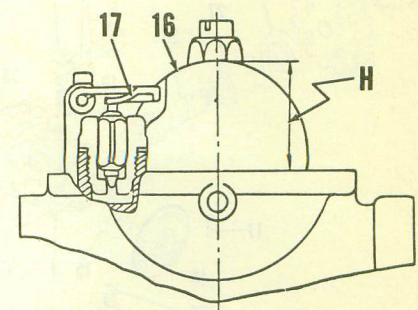
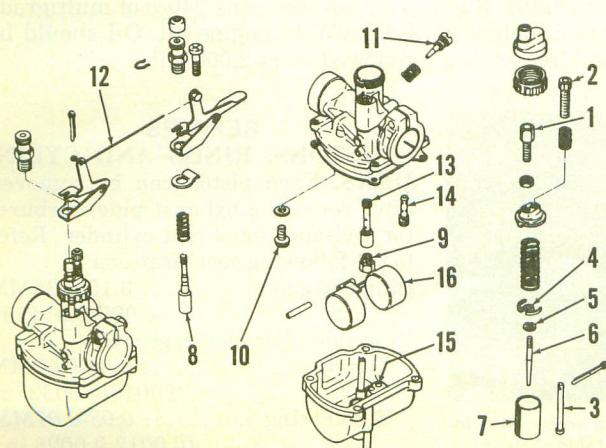

Fig. Y8-2—Float level (H) is adjusted by bending tang (17).
Fig. Y8-1—Exploded view of Mikuni VM carburetor. Starting valves for both carburetors are connected with rod (12).
**CARBURETORS.** Two Mikuni VM carburetors are used. Idle speed should be set at approximately 1,200 rpm by turning adjusters (2—Fig. Y8-1). Make
Float level (H—Fig. Y8-2) should be 25.4MM (1 in.) and is adjusted by bending tang (17) on float. Refer to Fig. Y8-1 and the following standard specifications:
cable guides (1—Fig. Y8-1) are correctly set. To adjust the throttle cable guides, turn the idle speed adjusters (2) all the way down, then synchronize cable guides (1) so that both throttle slides (7), begin to move at exactly the same time when the hand grip is turned. The throttle cables should have approximately 1/16-inch free play after they are synchronized. Adjust the idle speed to 1,100-1,300 rpm by turning both idle adjusters (2). Make certain that both throttle slides stop at exactly the same time. Turn the throttle hand grip just enough to take up free play from the throttle cables (without changing idle speed) and check the oil pump setting mark and guide pin as shown in Fig. Y8-5. If the mark (1) is not exactly aligned with guide pin (2); loosen the lock nut and turn the pump cable adjuster (3) as required to align.